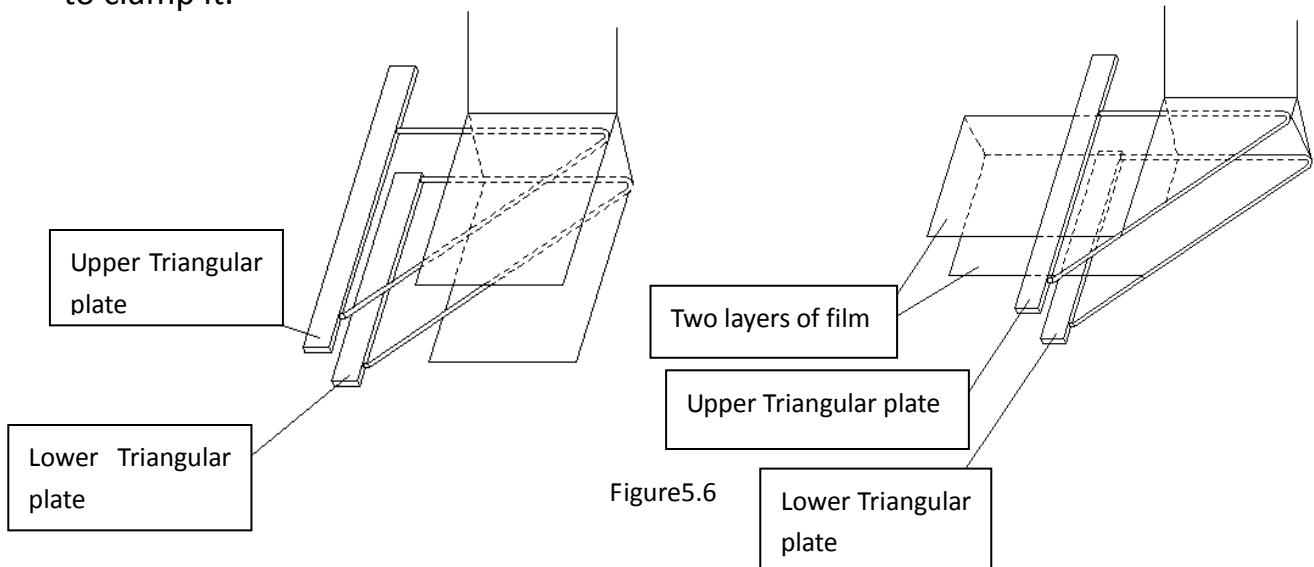

Figure5.6
Select the function page and the submenu appears as shown in Figure 5.6
B. After threading the shrink film to the rollers, then lead to the upper and lower triangular plate. The upper and lower triangular plates are shown in Figure 5.6.